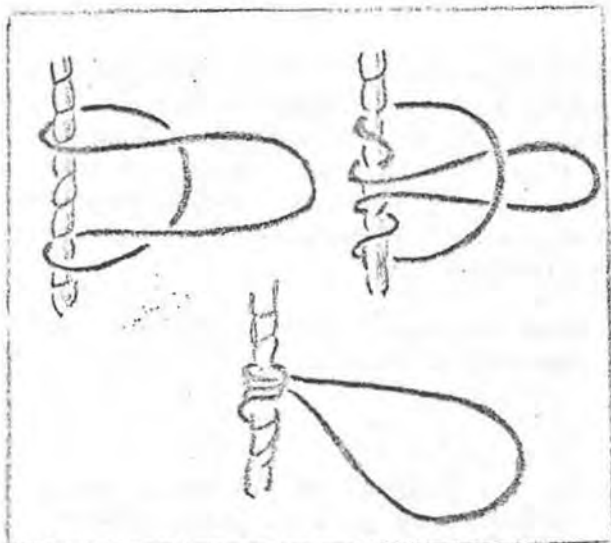

FIG 31. PRUSIK KNOT
(1) Prusik Knot: The prusik knot is tied with a small rope around a large rope; for example, a sling rope around a one inch manila rope in such a manner that the smaller rope will slide on the longer rope if no tension is applied and will hold if tension is applied on the small rope. It is tied with a bight of rope or end of rope. When tied with an end of rope the knot is finished off with a bowline. When tied with the middle of the rope it is finished off with an overhand knot. (Figure 31).
(2) Overhand Knot: The overhand knot is used to make a knotted rope for a hand line and to temporarily whip the end of a rope.